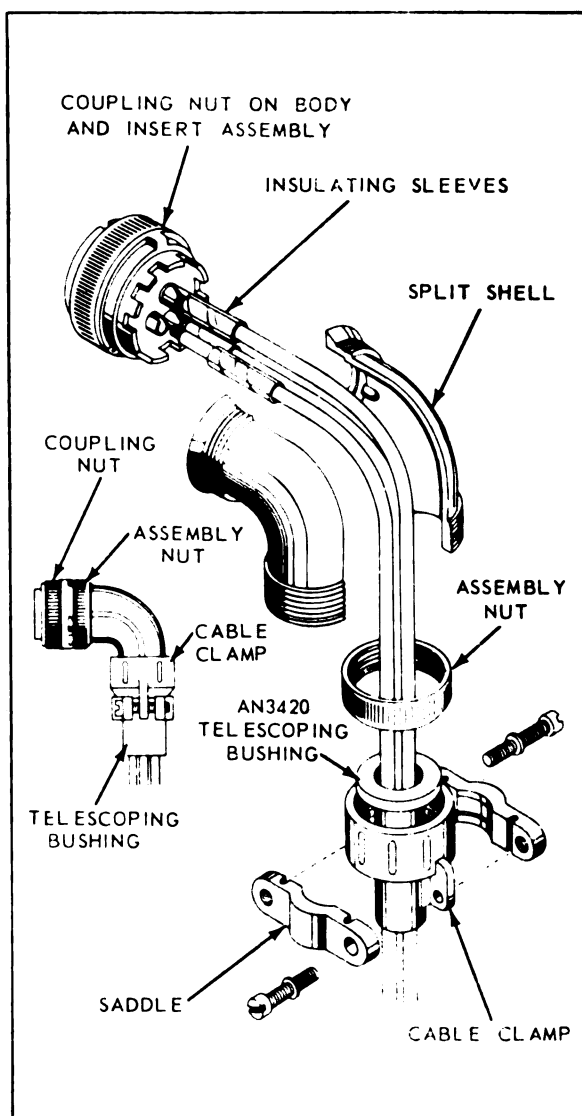

Figure 3-63. Installation of Cannon Class B Connector
- Install the following items on wire bundle in listed order as shown in figure 3-63.